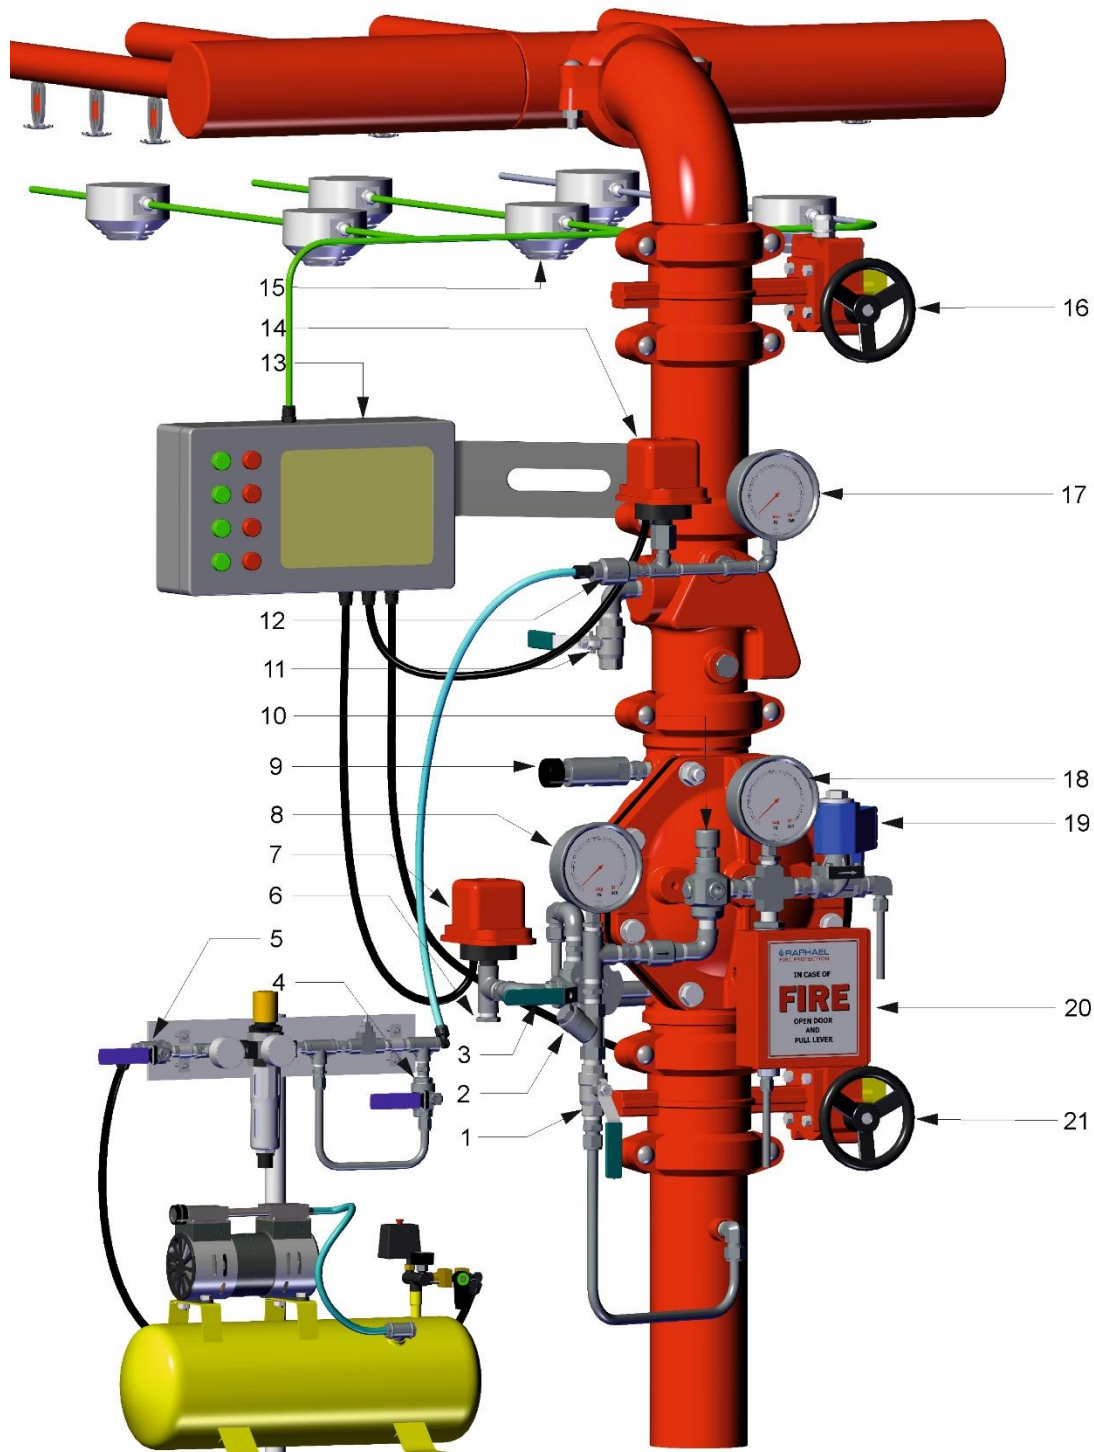

Figure 2
A series of smoke and heat detectors are installed over the protected area and electrically connected to the main fire-protection control board (13 in figure 2).
## INSTALLATION (Reference Figure 2)
9. All connections to water supply, alarms etc. should be done in accordance with figure 2:
Installation parts list (Reference Figure 2)
## INSTALLATION PARTS LIST (Reference Figure 2)
## **OPERATING INSTRUCTIONS** (Reference Drawing - figure 2)
(Reference Drawing - figure 2)
(Reference drawing - figure 2)
### Resetting & placing in service (Reference Drawing - figure 2)
**After a real fire situation, make sure that the SOV is closed by de-energizing its coil (through the FP main control board).** (Reference drawing - figure 2)
## MAINTENANCE (Reference Figure 2)